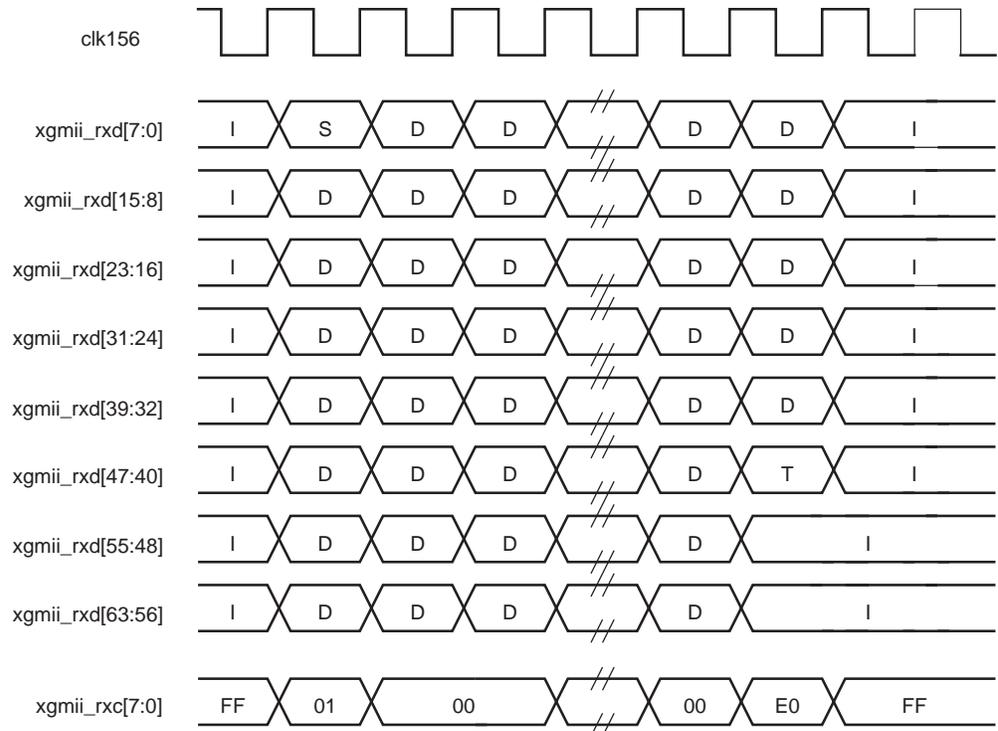

Figure 6-3: Frame Reception Across the Internal 64-bit Client Interface
The timing of a normal inbound frame transfer is shown in Figure 6-3. As in the transmit case, the frame is delimited by a Start character (S) and by a Terminate character (T). The Start character in this implementation can occur in either lane 0 or in lane 4. The Terminate character, T, can occur in any lane.